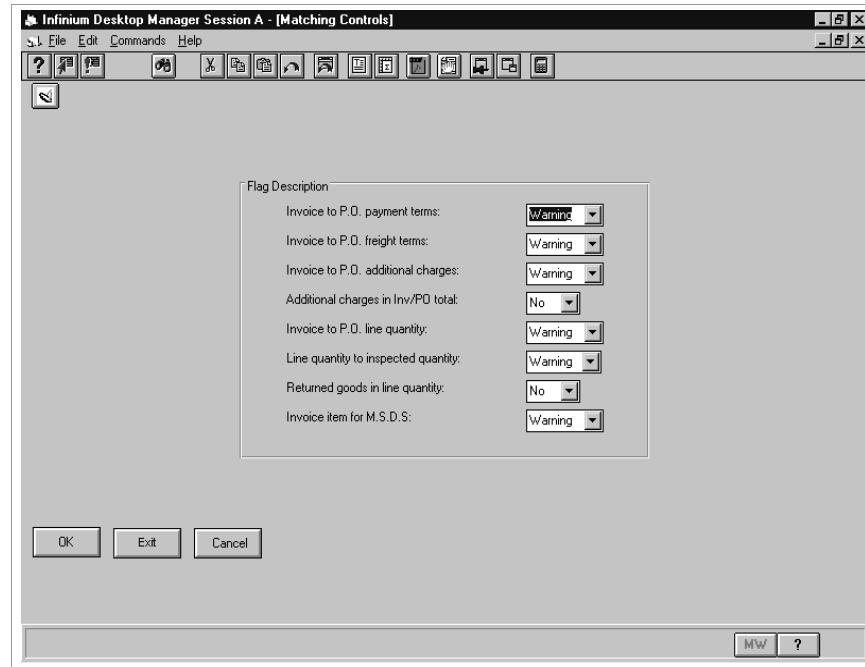

Figure 2-4: Matching Controls screen
- 2 Select *Work with matching controls* [WWMC]. The system displays a screen similar to Figure 2-4.